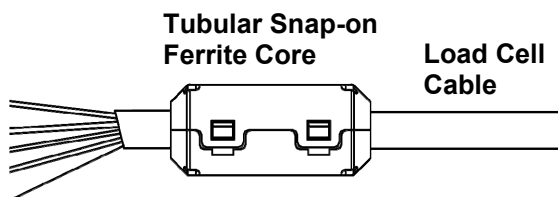

Figure No. 6
6. Attach the included tubular snap-on ferrite core to the outer insulation jacket inside the enclosure near the end of the jacket. Make sure sufficient pressure is applied to completely latch the core to the cable. See Figure No. 6.